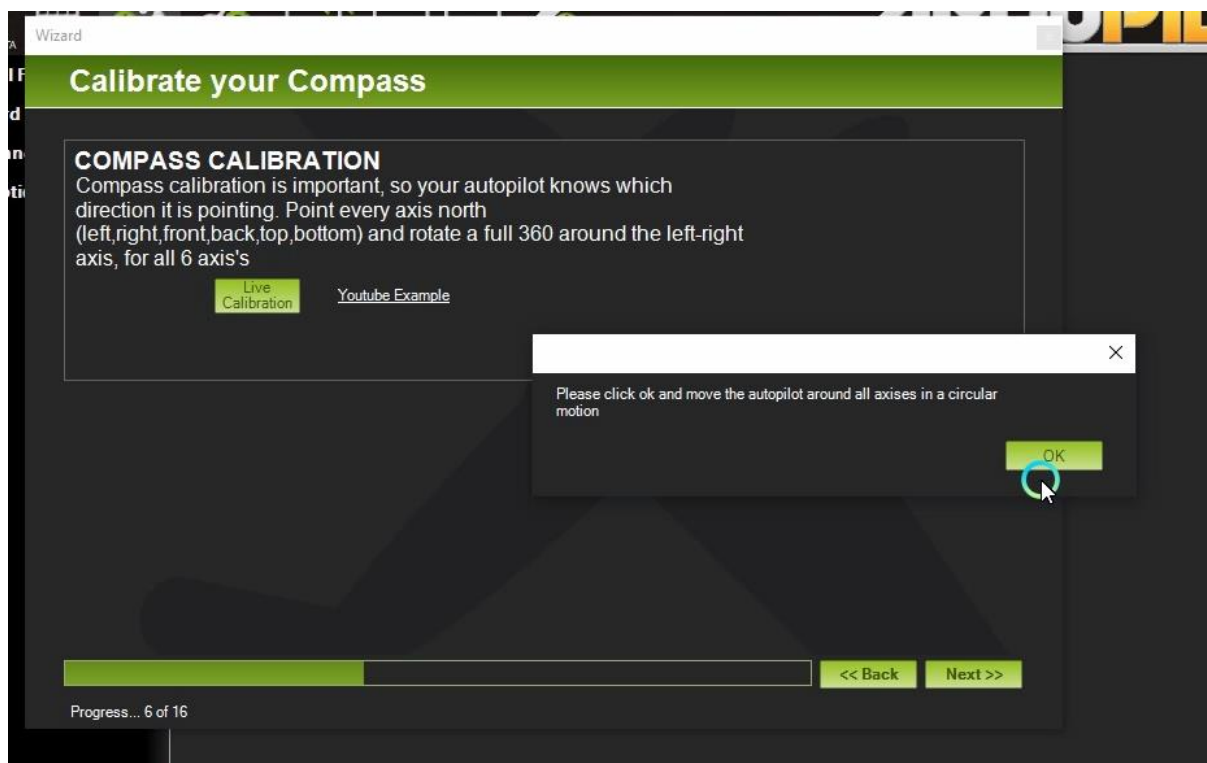

Fig.4.8
9. Next is compass calibration. Click on live calibration, then click OK. Refer Fig.4.8.